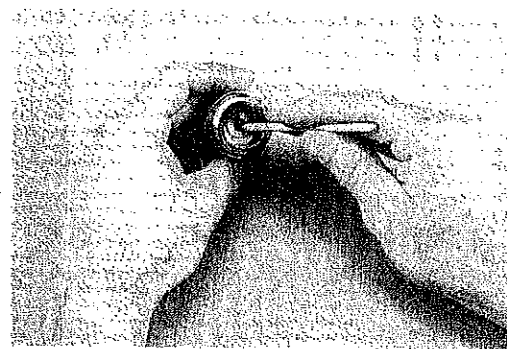

Fig. 5B
1. Lubricate and install the piston shaft o-ring(29) into the main body(28), using a 3/16" wooden dowel and a smoothly polished blunt dental probe from opposite ends to guide it into place. (See fig. 5B.)
2. Lubricate and install the piston head o-ring(33) onto the head of the piston(32).